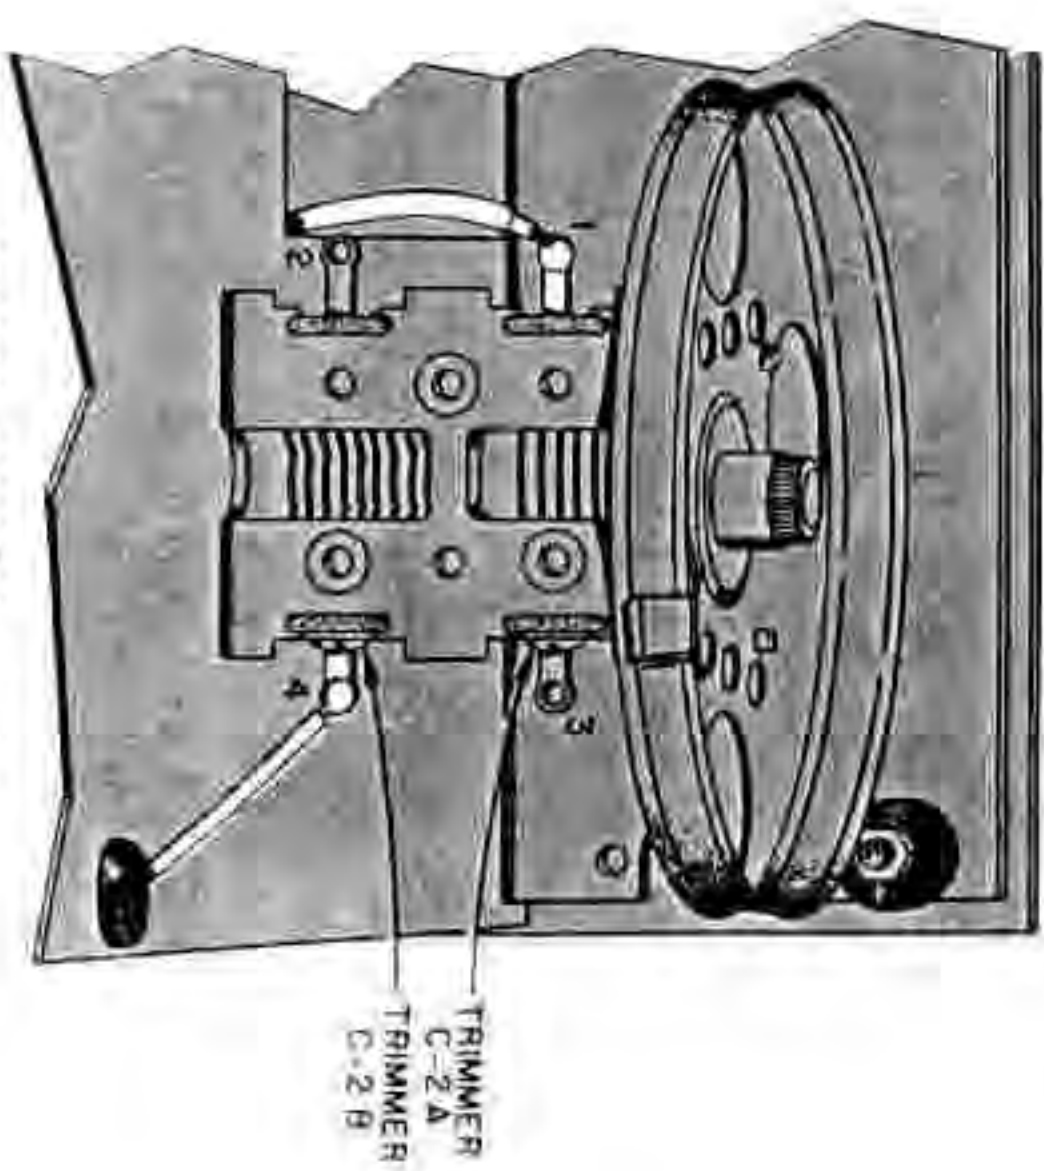

FIGURE 16. C-2 WIRING DETAIL
- Yellow wire from grommet B. Refer to Figure 16 for the correct terminal location. Solder the free end of the wire to terminal 4 of C-2.
- White/black wire. Refer to Figure 16. Solder one end to terminal 1 of C-2. Push the other end of the wire down through the chassis cutout; it will be connected later.
- Repeat the procedure of finding and identifying a station, but near 1600 KC. If the dial setting does not correspond to the frequency listed or given for that station, set the dial to the correct frequency and adjust C-2B (See Figure 16) until the station is heard.